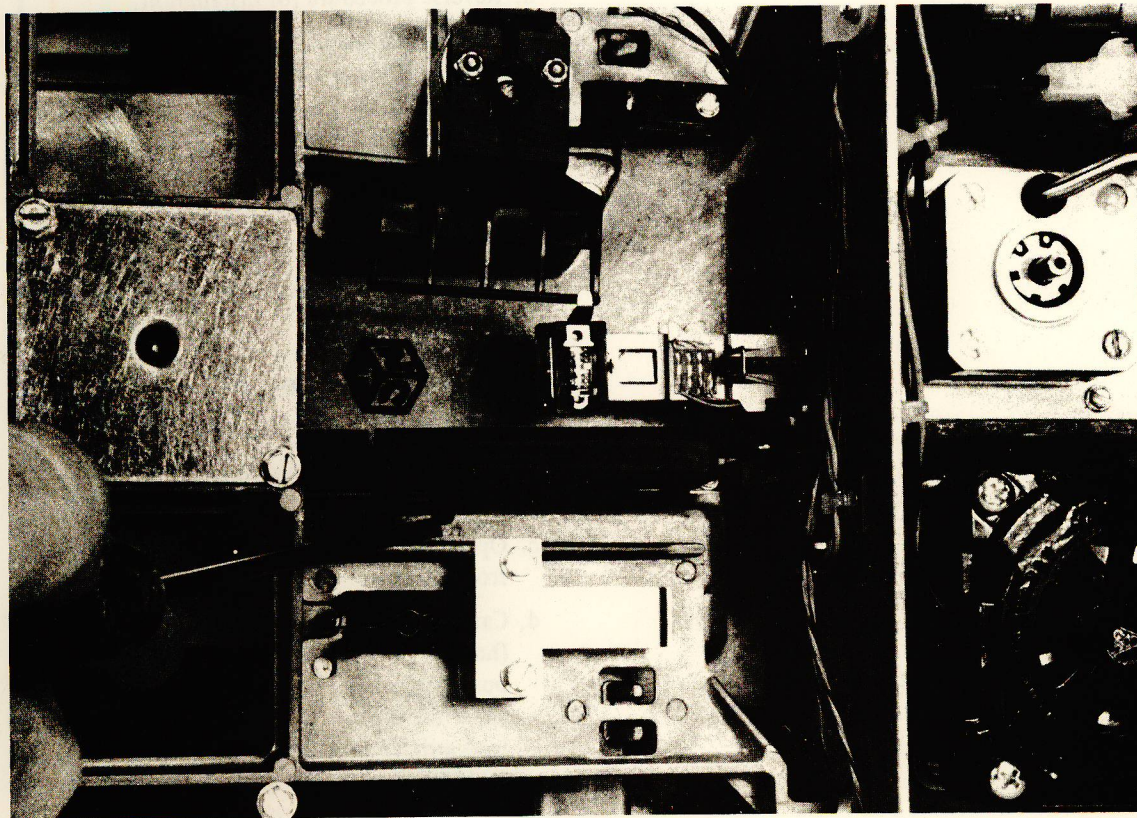

FIGURE 3 CARTRIDGE GUIDE ACCESS
- g. Release safety catch on guide open assembly by pressing it towards the back of the drive. (Figure 3.)
- i. Re-engage cartridge guide with spring loaded cam follower (Figure 3).